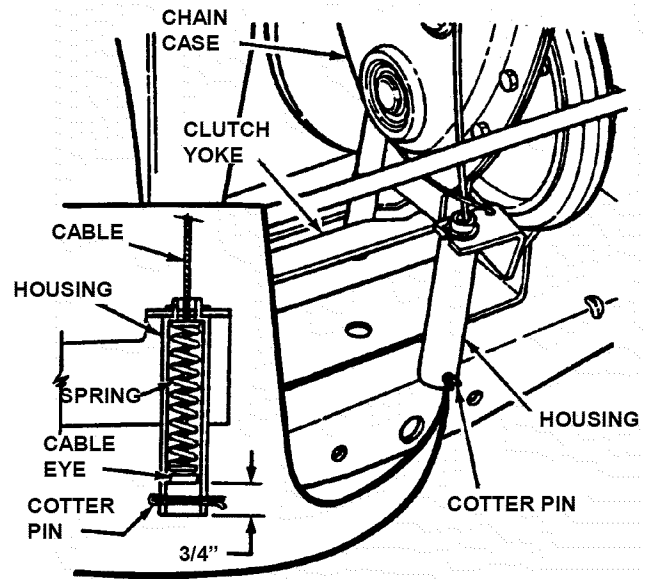

FIGURE 4.9
5. Measure the distance between end of clutch/brake cable and bottom of housing. Measurement should be $3/4$ ". See inset of Figure 4.9.
7. Adjust cable up or down using the jam-nuts to obtain a distance of $3/4$ " between end of clutch/brake cable (adjustment shown in inset of Figure 4.9) and bottom of housing. See Figure 4.9.